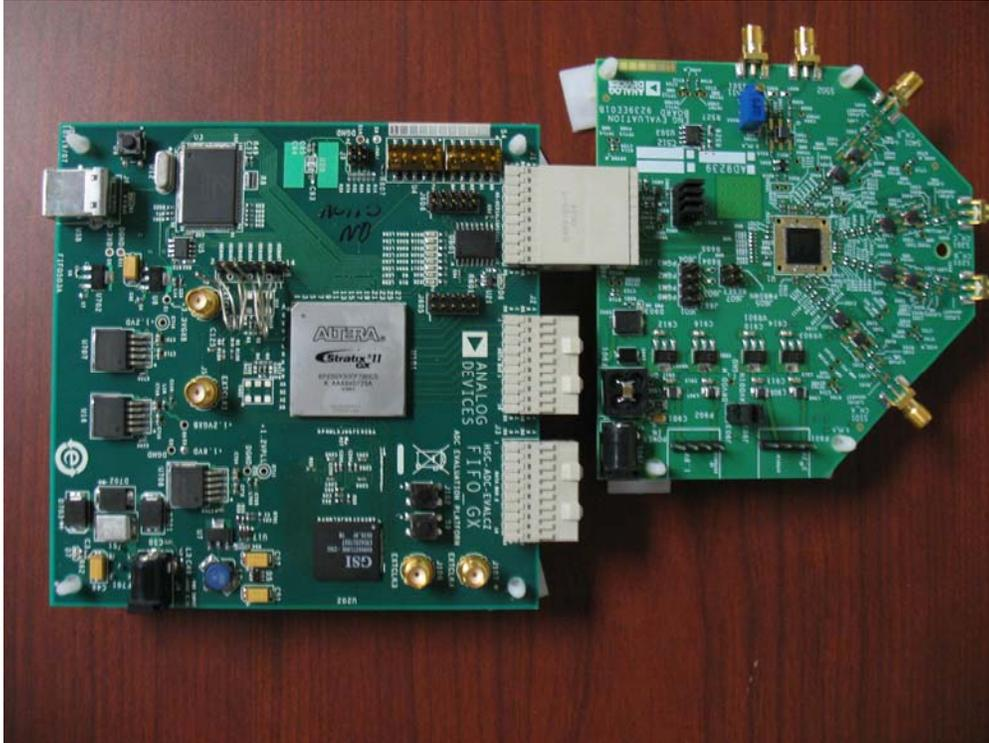

Figure 1: AD9239 Evaluation Board – HSC_ADC_EVALC FIFO_GX Data Capture Board
1. Connect the ADC and HSC-ADC-EVALC boards to each other as shown in Fig 1. Be sure the connector J608 on the ADC board is connected to J1 on the HSC-ADC-EVALCZ board.